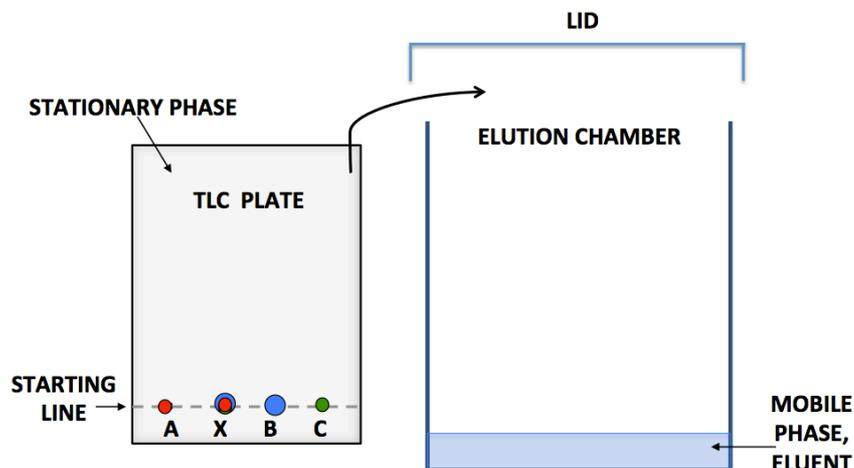

Figure 3. Spots of substances on chromatographic plate; elution chamber.
1. The starting line is drawn close to the one end of the chromatographic plate. Spots of the substances to be determined (a , b , c) and the mixture x are transferred onto the starting line (Figure 3).
2. The plate is placed in the elution chamber with small amount of eluent (mobile phase) in it (Figure 3).
Identification is based on assumption that under certain working method and conditions the ratio of spot's speed, V_x , to the speed of mobile phase front, V_0 , is constant. This constant is characteristic to a substance. To calculate mobility of a substance, the distance between the starting line and the center of the spot (h_x) is measured and divided by the distance between starting line and the eluent front, h_0 (Figure 3 and Equation 1).